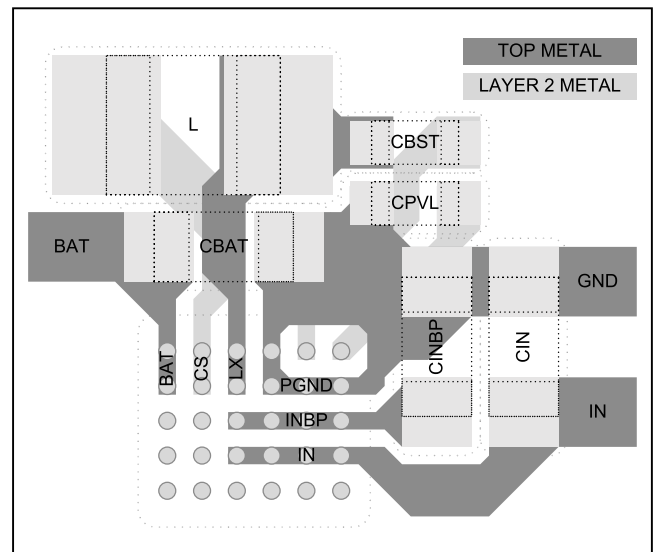
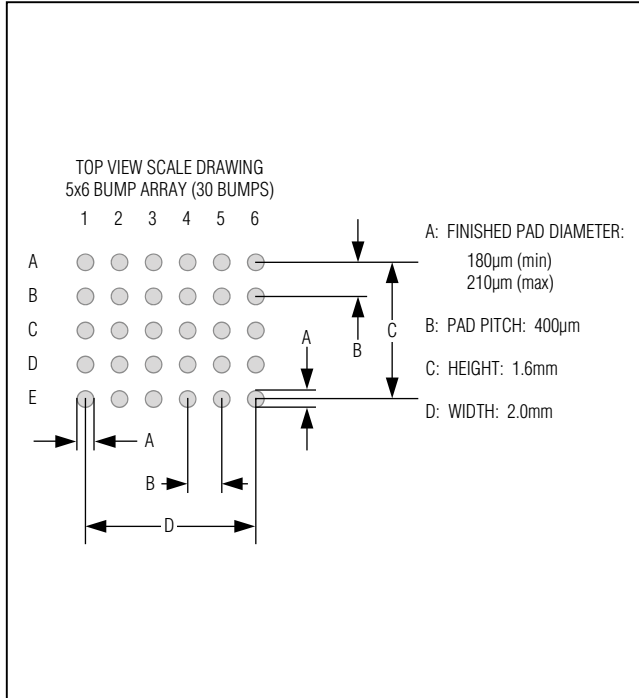
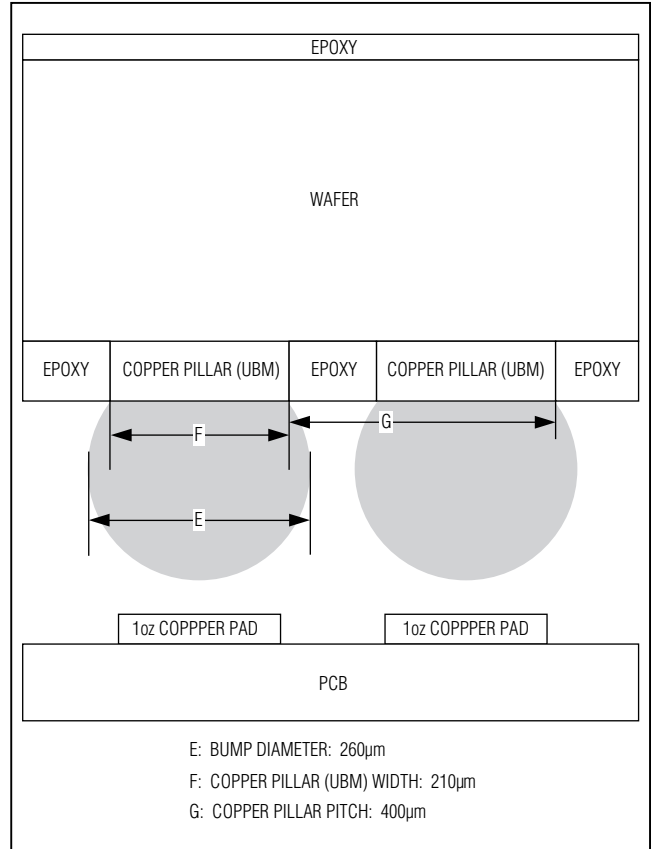

Figure 14. Power PCB Layout Example
Figure 15. Recommended Land Pattern
Figure 16. Bump Cross Section and Copper Pillar Detail
Figure 15 shows the recommended land pattern for the MAX8900\_. Figure 16 shows the cross section of the MAX8900\_'s bump with detail of the under-bump metal (UBM). The diameter of each pad in the land pattern is close to the diameter of the UBM. This land pattern to UBM relationship is important to get the proper reflow of each solder bump.
Careful printed circuit layout is important for minimizing ground bounce and noise. Figure 14 is an example layout of the critical power components for the MAX8900\_. The arrangement of the components that are not shown in Figure 14 is less critical. Refer to the MAX8900 Evaluation Kit for a complete PCB layout example. Use the following list of guidelines in addition to Application Note 1891: *Wafer-Level Packaging (WLP) and Its Applications* ([www.maximintegrated.com/ucsp](http://www.maximintegrated.com/ucsp)) to layout the MAX8900\_ PCB.
- 5) In Figure 14, the CS node is connected to the second layer of metal with vias. Use low-impedance vias that are capable of handling 1.5A of current. Also, keep the routing inductor current path on layer 2 just underneath the inductor current path on layer 1 to minimize impedance.
- 6) Both CBST and CPVL deliver current pulses for the MAX8900\_'s MOSFET drivers. These components should be placed as shown in Figure 14 to minimize parasitic impedance.
In Figure 14, many of the top layer bump pads are connected together in top metal. When connecting bumps together with top layer metal, the solder mask must define the pads from 180 $\mu$ m to 210 $\mu$ m as shown in Figure 15. When using solder mask defined pads, please double check the solder mask openings on the PCB Gerber files before ordering boards as some PCB layout tools have configuration settings that automatically oversize solder mask openings. Also, explain in the PCB fabrication notes that the solder mask is not to be modified. Occasionally, optimization tools are used at the PCB fabrication house that modify solder masks. Layouts that do not use solder mask defined pads are possible. When using these layouts, adhere to the recommendations A through G above.